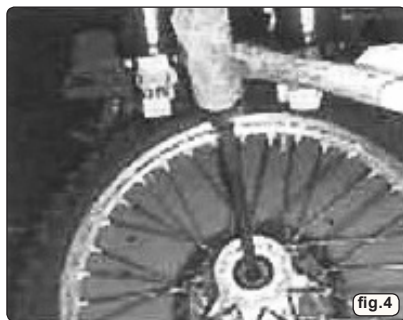

fig.4
3.4. Remove Wheel Bearing (fig.4)